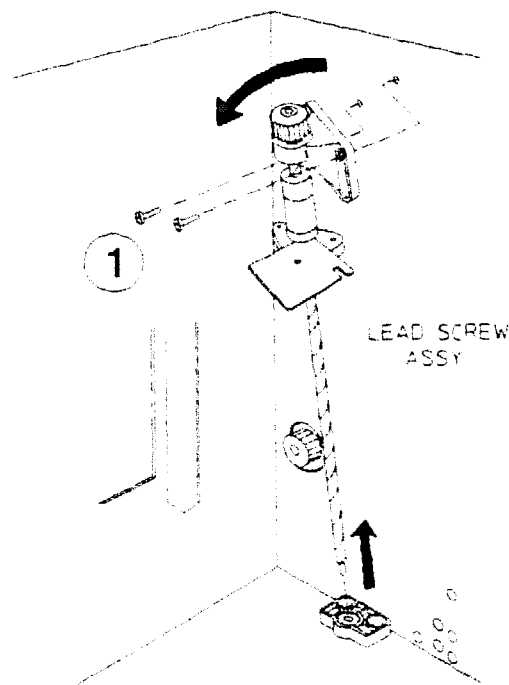

Figure 8-37. Removing the Carriage Leadscrew Assembly
2. Remove the screws holding the Leadscrew top bracket to the back wall of the chassis (Figure 8-37 (1)).